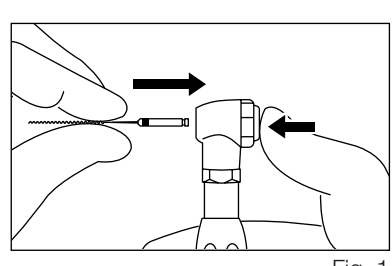

Fig. 1
(1) Mounting
- To mount file or reamer, while pressing the push button, align shapes of the back end of file and the hole of the head shaft and insert file all the way, and then stop pressing the button. (Fig.1)